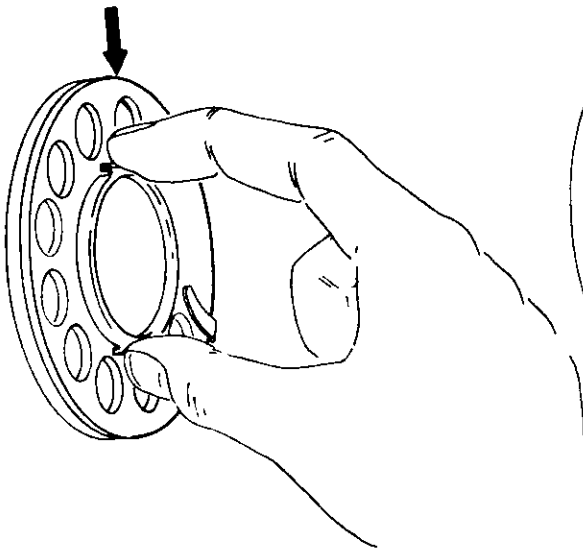

Figure 8a. Depressing Upper Locking Tab.
- (1) Press down against the upper edge of the card holder frame, between the 2/ABC and 3/DEF finger holes, with a forefinger, while stabilizing the lower edge of the frame with a thumb (see Figure 8a).
- (2) Clear the upper locking tab, tilt the card holder forward and disengage the lower locking tab from its slot.